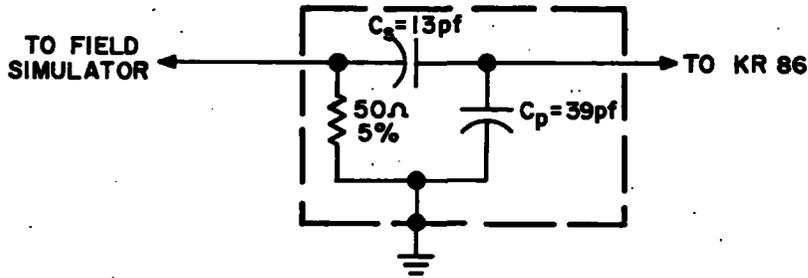

FIGURE 6-14 SENSE ANTENNA SIMULATOR
- I. Sense Antenna simulator, See Figure 6-14
4. SEE FIG. 6-14 FOR SENSE ANTENNA SIMULATOR SCHEMATIC DIAGRAM.